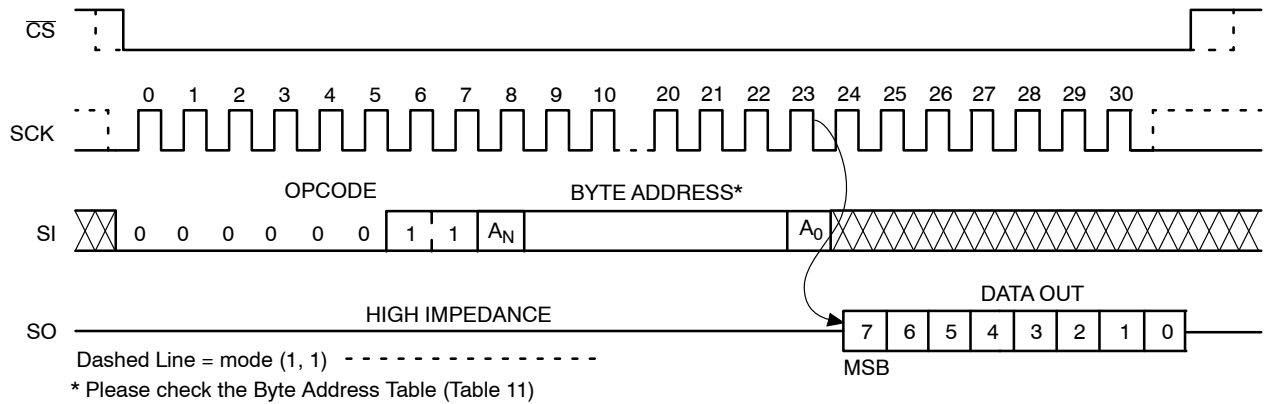

Figure 9. READ Timing
After receiving the last address bit, the NV25512 will respond by shifting out data on the SO pin (as shown in Figure 9). Sequentially stored data can be read out by simply continuing to run the clock. The internal address pointer is automatically incremented to the next higher address as data is shifted out. After reaching the highest memory address, the address counter “rolls over” to the lowest memory address, and the read cycle can be continued indefinitely. The read operation is terminated by taking  $\overline{CS}$  high.
Reading the additional 128-byte Identification Page (IP) is achieved using the same Read command sequence as used for Read from main memory array (Figure 9). **The IPL bit from the Status Register must be set (IPL = 1) before attempting to read from the IP.** The [A6:A0] are the address significant bits that point to the data byte shifted out on the